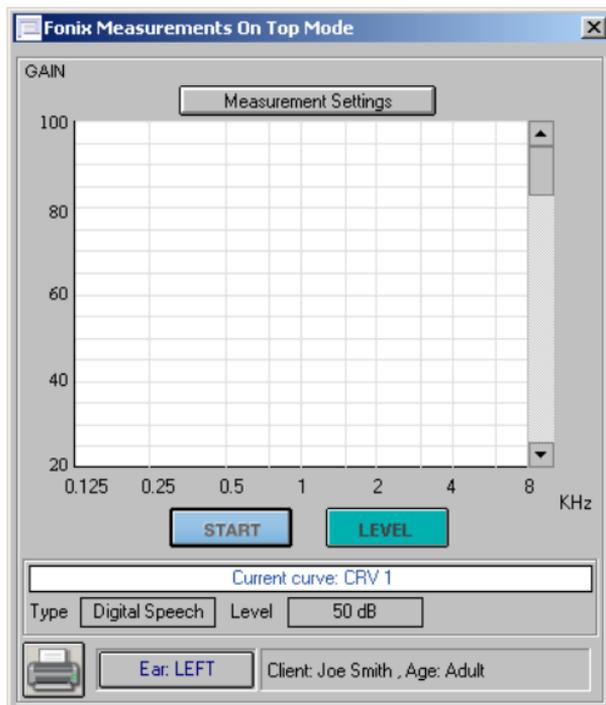

Figure 5: On Top Mode
2. Click the **On Top** button in the toolbar.  This will open the On Top window. See Figure 5.